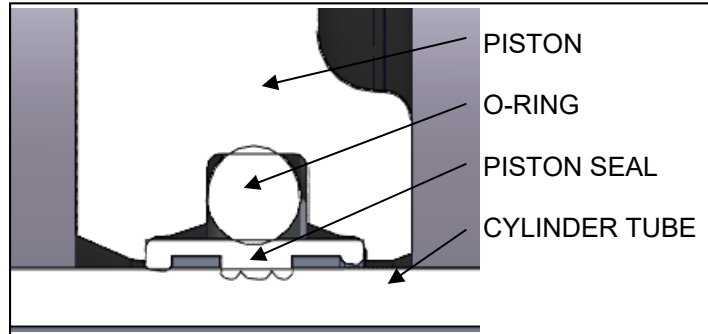

Figure 4—Piston Seal Detail
5. Remove the cylinder tube (C13), piston seal (C11) and o-ring (C12). Clean the parts and the grooves in the piston (C10). See Figure 4.